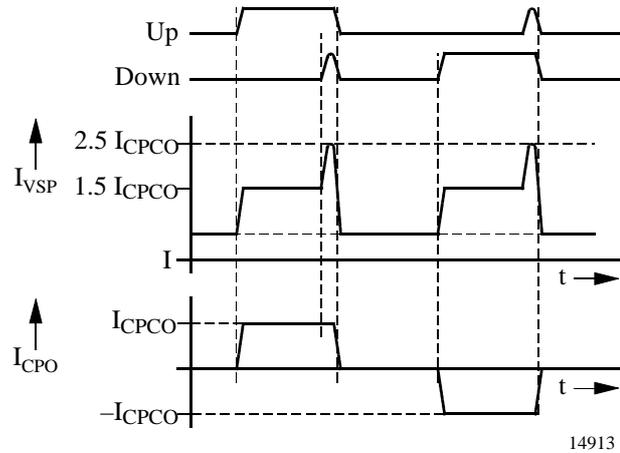
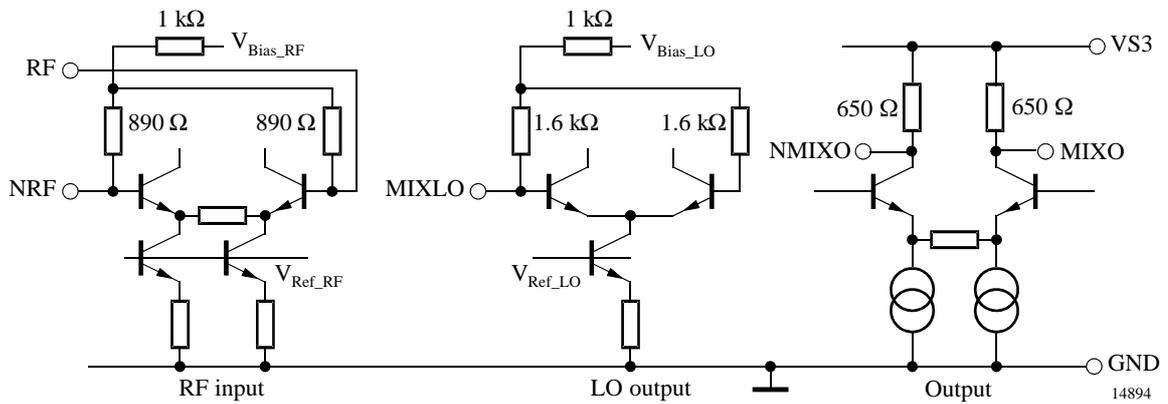

Figure 3. Supply current of the charge pump
Figure 5. Mixer
1) Mean value, measured with F_{ND} = 151 MHz, F_{RD} = 150 MHz, current vs. time, see page 6, figure 3
Due to the pulsed operation of the charge pump, the current into the charge-pump supply pin VSP is not constant. Depending on I (see figure 5) and the phase difference at the phase detector inputs, the current I_{VSP} over time varies. Basically, the total current is the sum of the quiescent current, the charge-/discharge current, and – after each phase comparison cycle – a current spike (see figure 3).